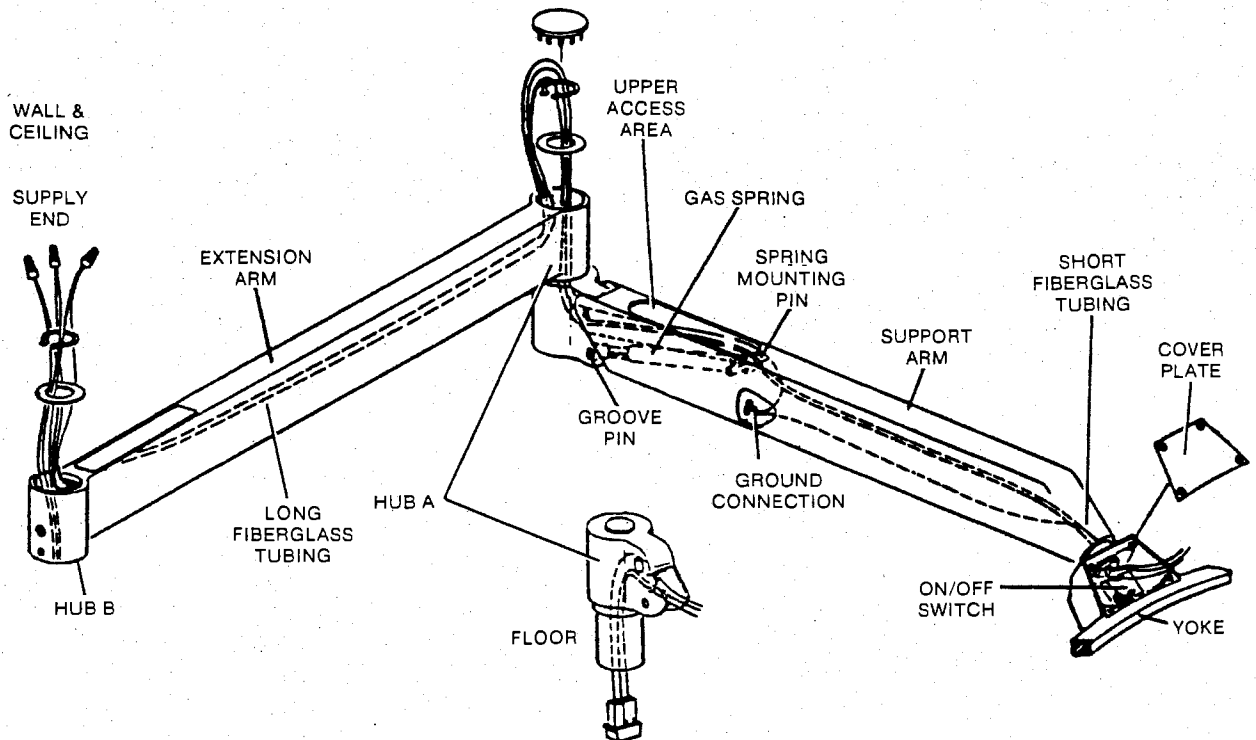

FIGURE 6-18. EXTENSION/SUPPORT ARM WIRING
2. Refer to Figure 6-18. Disconnect and remove wiring from extension arm.